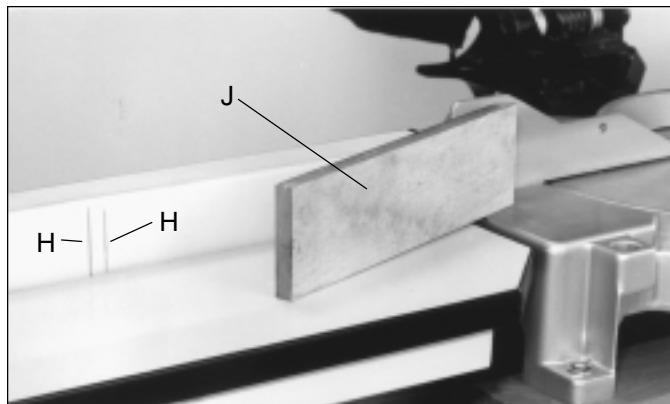

Fig. 7
8. Measure the distance between the two marks (H) Fig. 7, and plane a piece of stock to this dimension. The height and length of the stock should be the same size as the miter saw fence.
9. Fig. 7 illustrates the piece of stock (J) which will be fastened to the left miter fence.